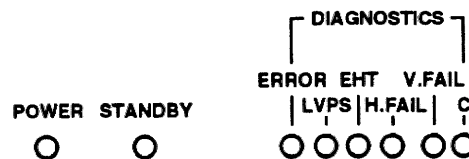

Figure 4-1. Rear Panel LEDs
**Symptom:** The projector will not turn on when **POWER** is pressed. All back panel lights are off. See Figure 4-1 below.